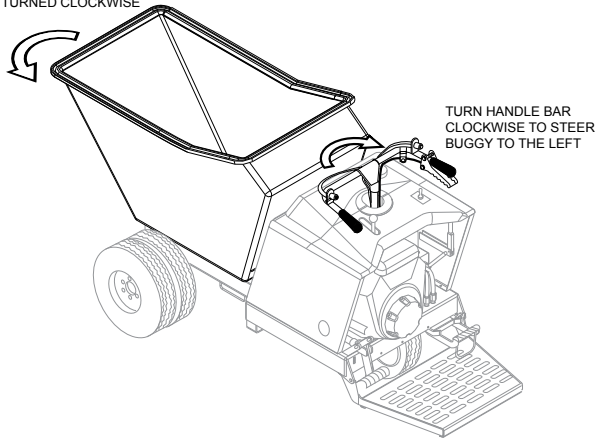

Figure 22. Steering the Buggy
1. To turn left when traveling in the forward direction, turn the handle bar clockwise (Figure 22).